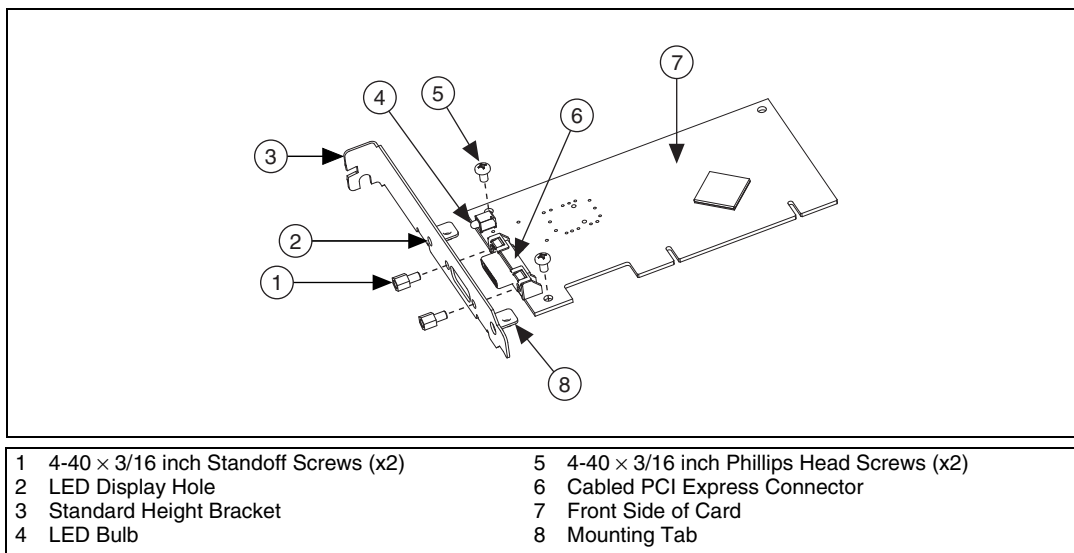

Figure 2. Removing the Standard Height Bracket from an NI PCI-8361
1. Remove the standard height front bracket already installed on your NI PCI-8361 or NI PCIe-8361 card by removing the two 4-40 × 3/16 inch Phillips head screws and the two 4-40 × 3/16 inch standoff screws that attach the bracket to the card, as shown in Figure 2. Set the screws aside to re-use when installing the low-profile bracket.